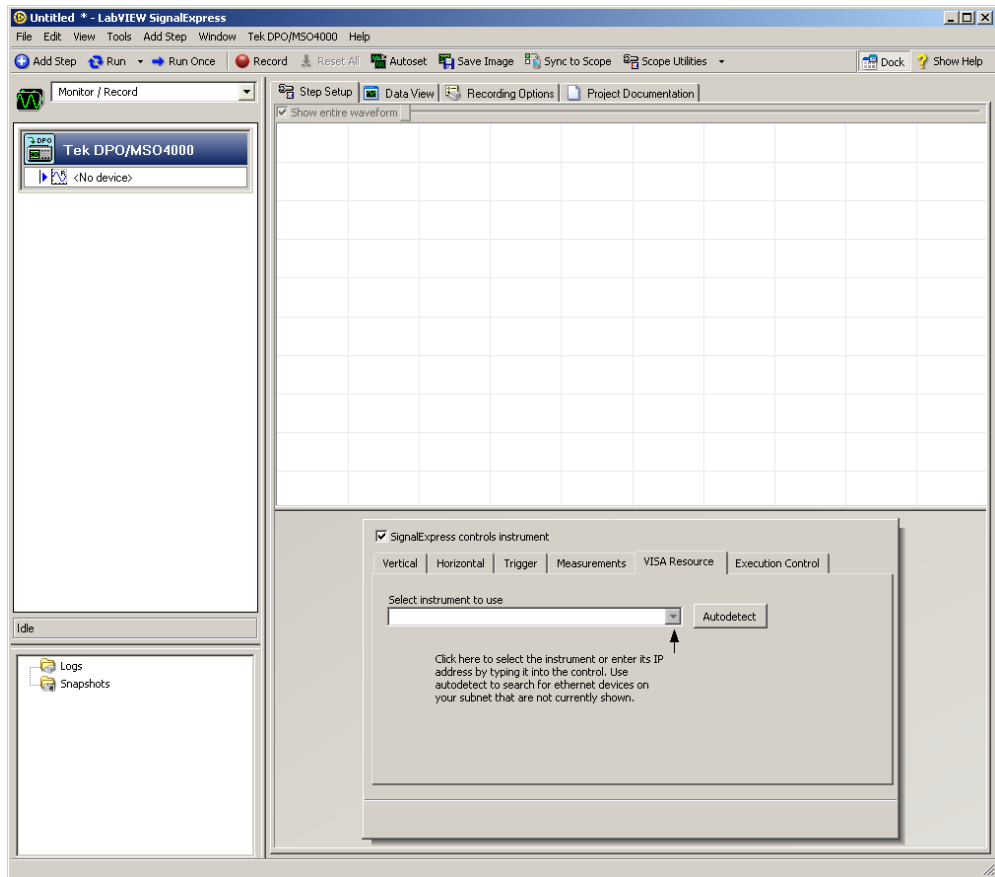

Figure 3-6. Step Setup Tab for Tektronix DPO4000 and MSO4000 Series Oscilloscopes
3. On the **Add Step** palette, select **Texttronix»Acquire Signals»*StepName***, where *StepName* is the name of the step that corresponds to the instrument you are using. The **Step Setup** tab for the step appears, as shown in Figure 3-6 for the DPO/MSO4000 step.